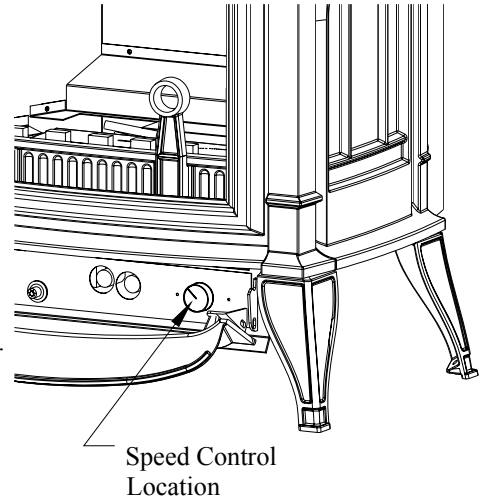

Figure 4: Speed Control Location
1. Open the ashlip door in order to have access to the control panel. See figure 4 for speed control location.
4. Tighten lock nut back on stem and reinstall knob. See Figure 4.